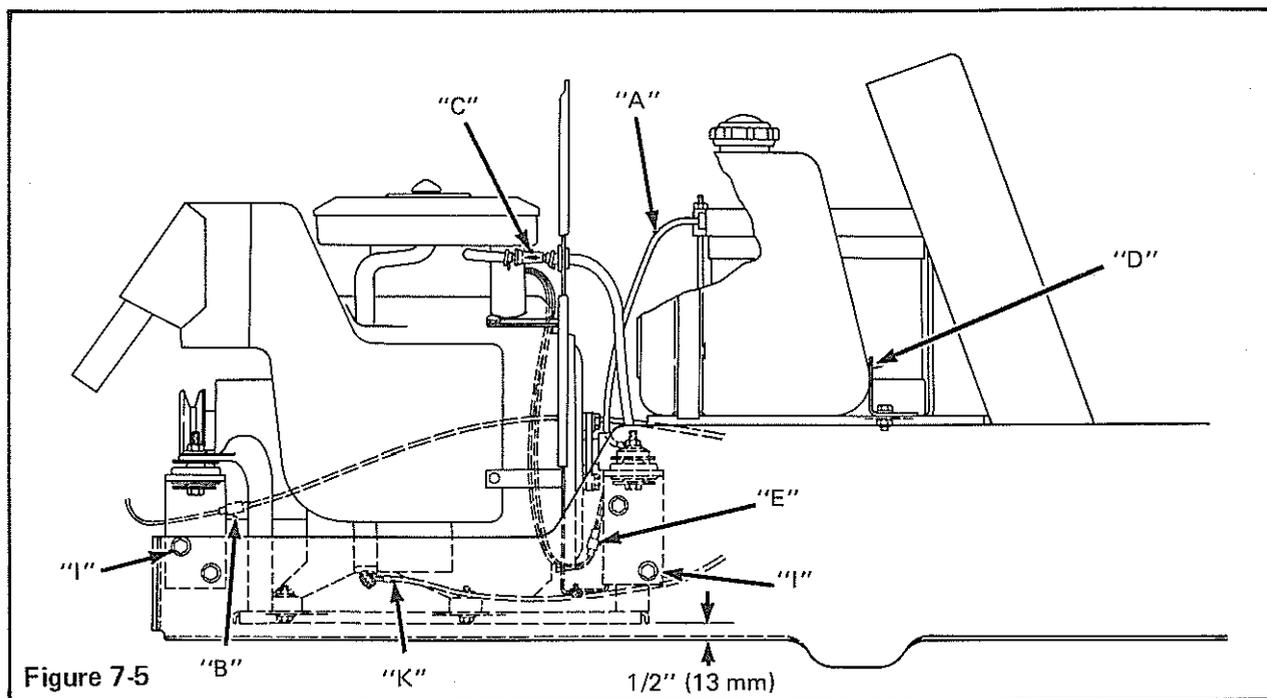

Figure 7-5
1. Disconnect negative battery cable (A) from battery.
4. Close fuel petcock and disconnect fuel line at fuel filter (C). Remove bracket (D), Figure 7-5 and fuel tank.
11. Lift engine straight up till starter wire (K), Figure 7-5 can be removed.
12. Slide hub (H) of drive shaft off when removing engine.
This dimension should be held at the front and rear of the engine support. See Figure 7-5.
4. Connect engine plug (E), Figure 7-5 to harness.
5. Position drive shaft hub (H) over mounting holes of flywheel and secure with existing screws. Make sure that there is a flat washer between the hub and flywheel. Tighten both bolts the same so hub does not cock.
6. Install fuel tank and bracket (D).
REMOVAL (Figures 7-5, 7-6 & 7-7)
REINSTALLATION (Figures 7-5, 7-6 & 7-7)
6. Connect the fuel line at filter (N), Figure 7-5 and 7-6.
NOTE - The fuel line from the tank must be routed thru the engine support away from driveshaft and other moving parts. Open fuel shut off valve (M) on fuel tank Figure 7-5.
8. Install all wires thru heat shield. Connect black ground (-) cable to right hand rear engine mounting bolt (J), Figure 7-5. Connect red positive (+) cable (I) to starter terminals.
9. Install block ground wire (H) to engine blower housing. Carefully connect blue ignition wire (G) to tab at engine.
10. Connect red/black wire (F) to engine lead.
11. Connect red wire (E) to regulator lead.